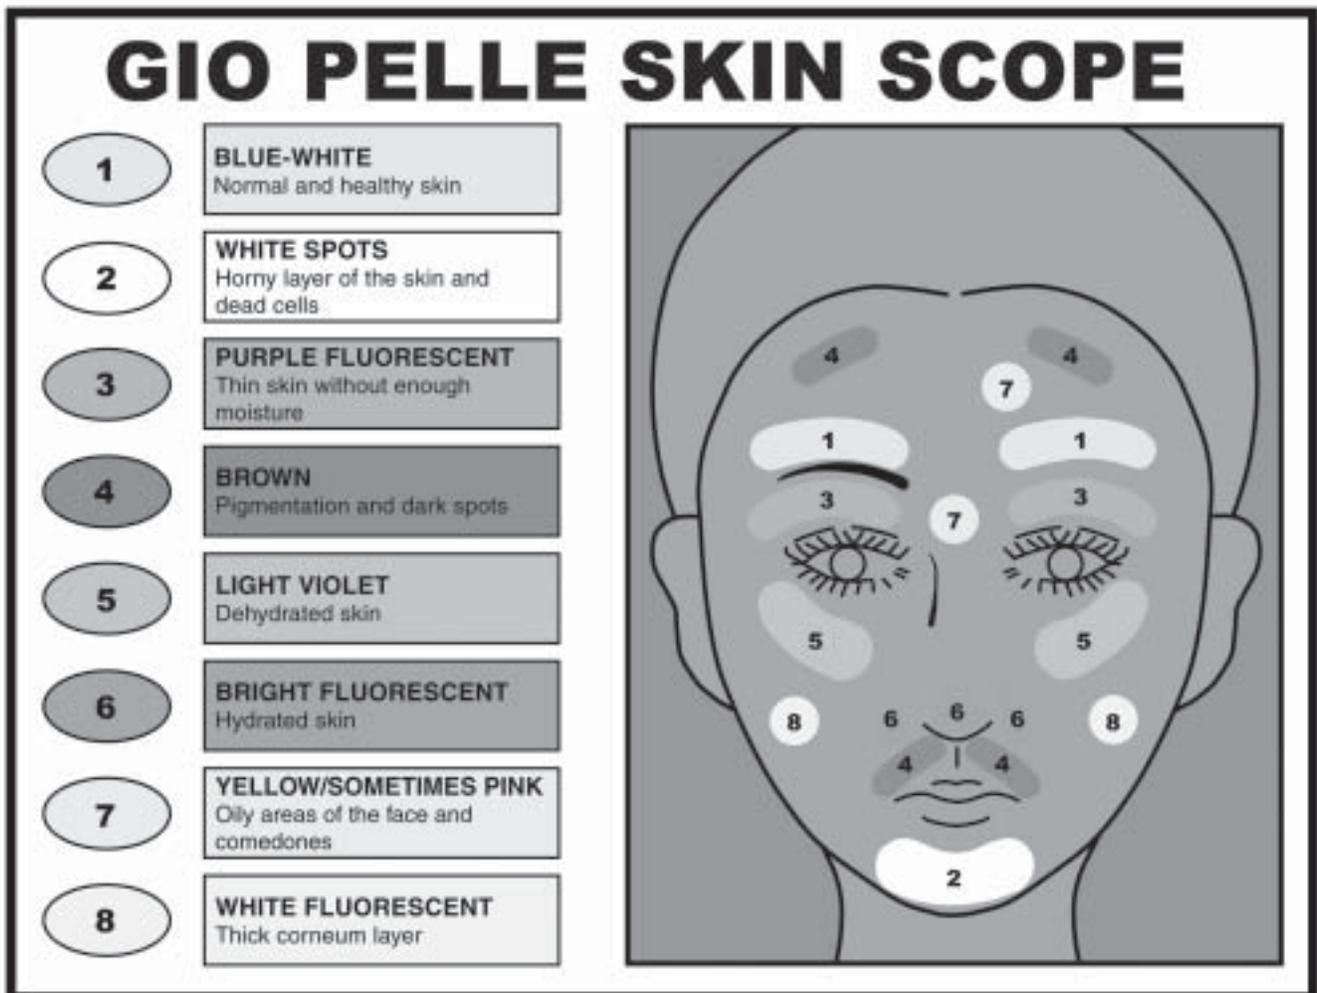

Figure 3
5. Refer to the color indicator chart for analysis (fig. 3).